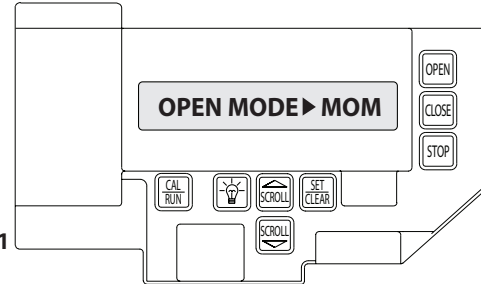

Figure 11
- 2) Press SCROLL  key until display reads "OPEN MODE>MOM" or "OPEN MODE>C-STP." **Figure 11.**